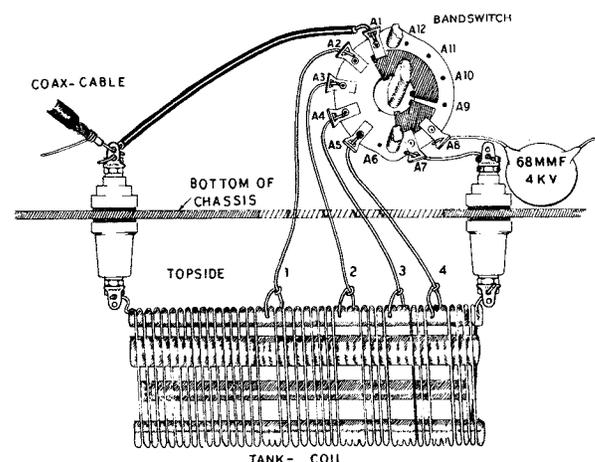

Figure 16
() The coil leads coming through the large hole are numbered 1, 2, 3 and 4 as shown in Figure 16. Trim these leads to optimum length as you connect them. Connect coil lead #4 to bandswitch A5 (S-1). Bend the coil lead as shown in Pictorial 3 to allow easy insertion to the bandswitch terminal.
- () Connect the free end of the #16 wire coming from the feedthrough insulator under the operation switch to A1 of the band switch (S-1). See Pictorial 3 and Figure 16.